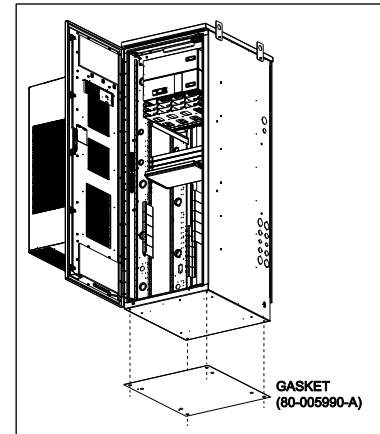

Figure 6 Gasket Installation
3. Install the gasket by positioning it on the pad so that it is underneath the bottom of the CUBE when the cabinet is installed. Line up the gasket so that the cutouts are in proper position around the conduit opening and the bolt holes as shown in Figure 6. Open the door to allow access to mounting holes.